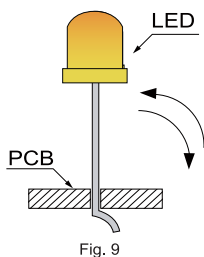

Fig. 9
6. Do not bend the leads more than twice. (Fig. 9)